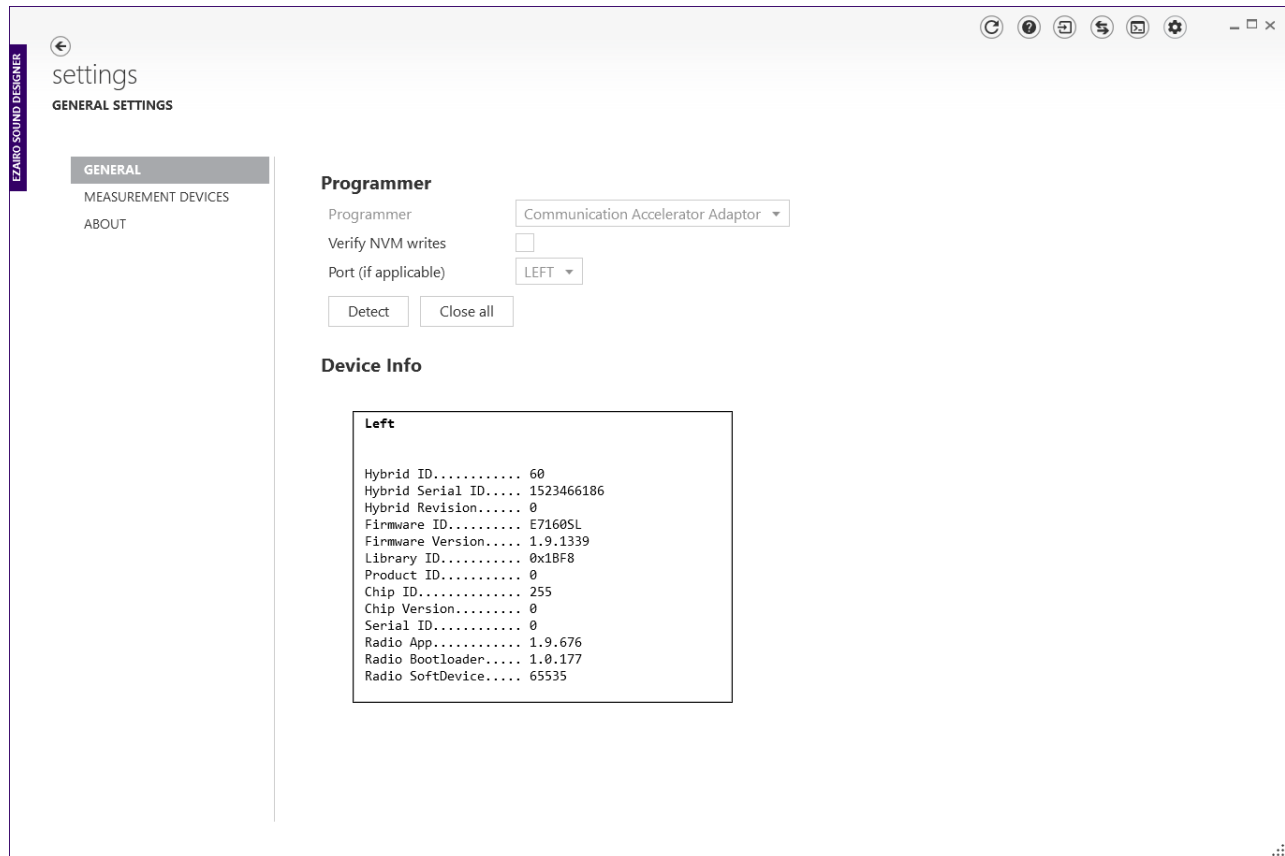

Figure 9. Detecting the Device
- To connect to the device, go to the **Settings** screen. Select the correct **Programmer**, and **Port** if applicable. Next, click **Detect**. A successful detection populates the device information in the **Device Info** box, as shown in the "Detecting the Device" figure (Figure 9).